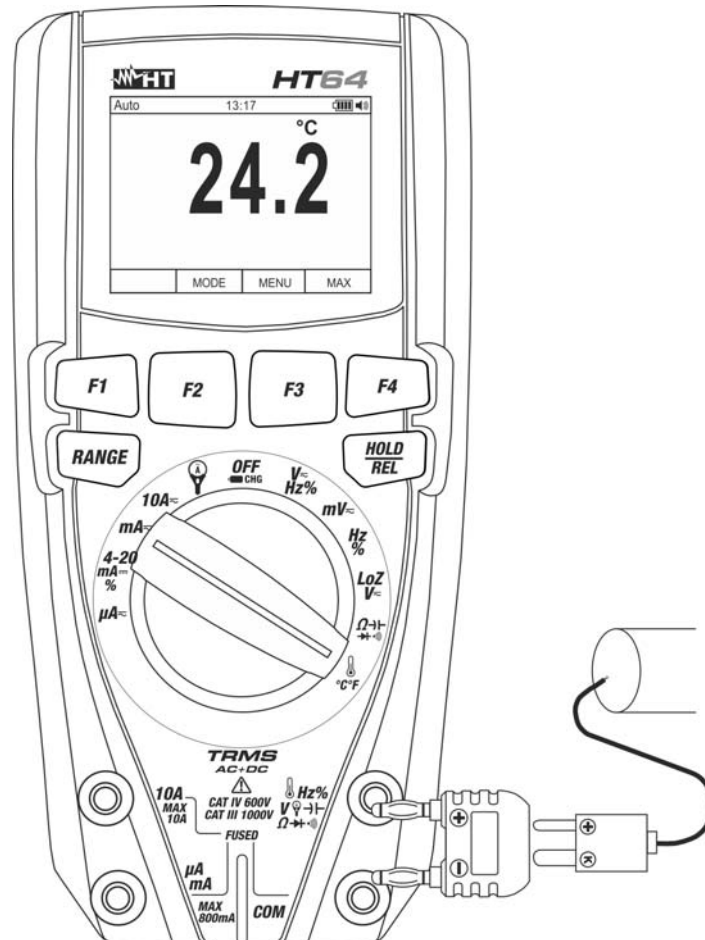

Fig. 29: Use of the instrument for Temperature measurement
3. Insert the provided adapter into input terminals  Hz%  V~  Ω  (polarity +) and **COM** (polarity -) (see Fig. 29)